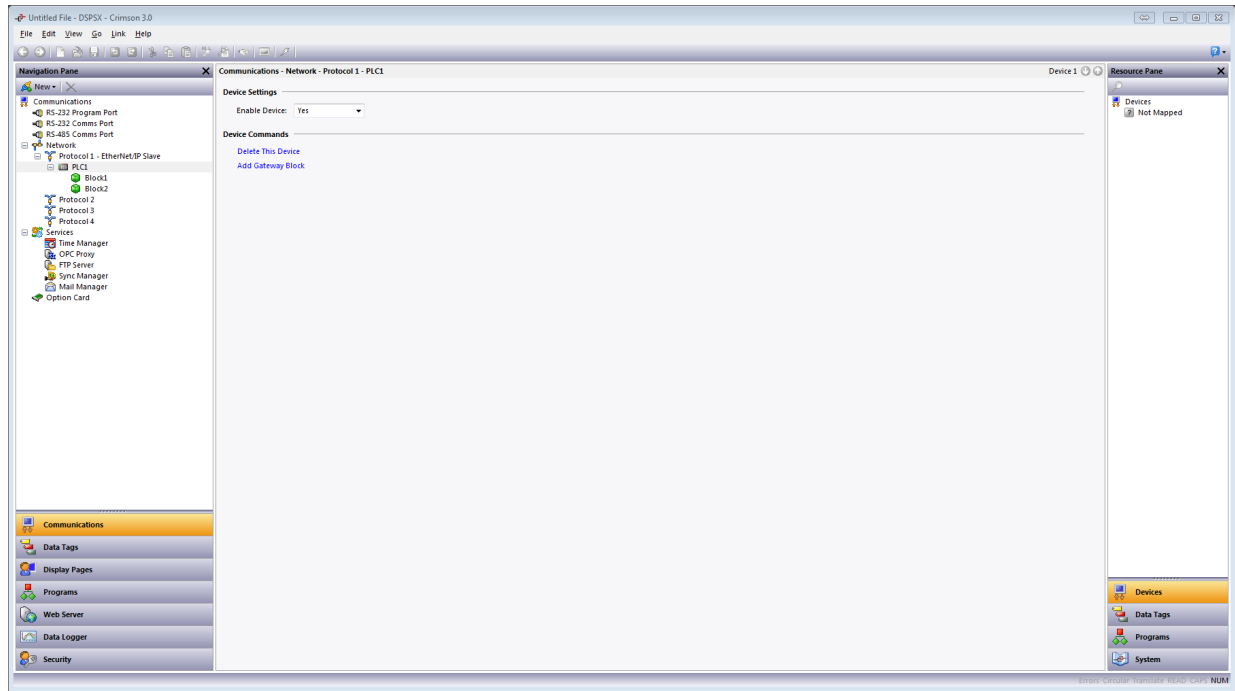

Figure 5.
10. Referring to Figure 5, click on the device below the driver; *PLC1* in this case.